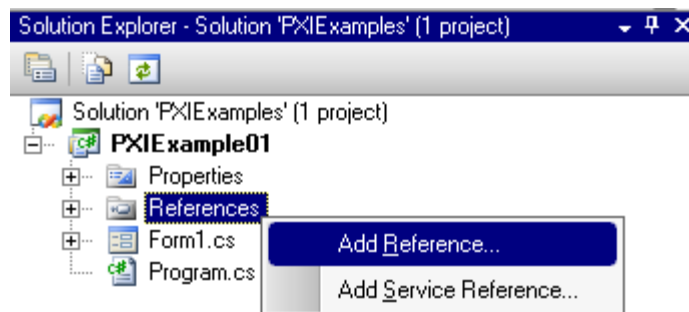

Figure 7 Adding a reference to the GSM Analysis Library DLL
- 3 Make sure the Solution explorer is visible, right-click on References and click on 'Add Reference'. See Figure 7.